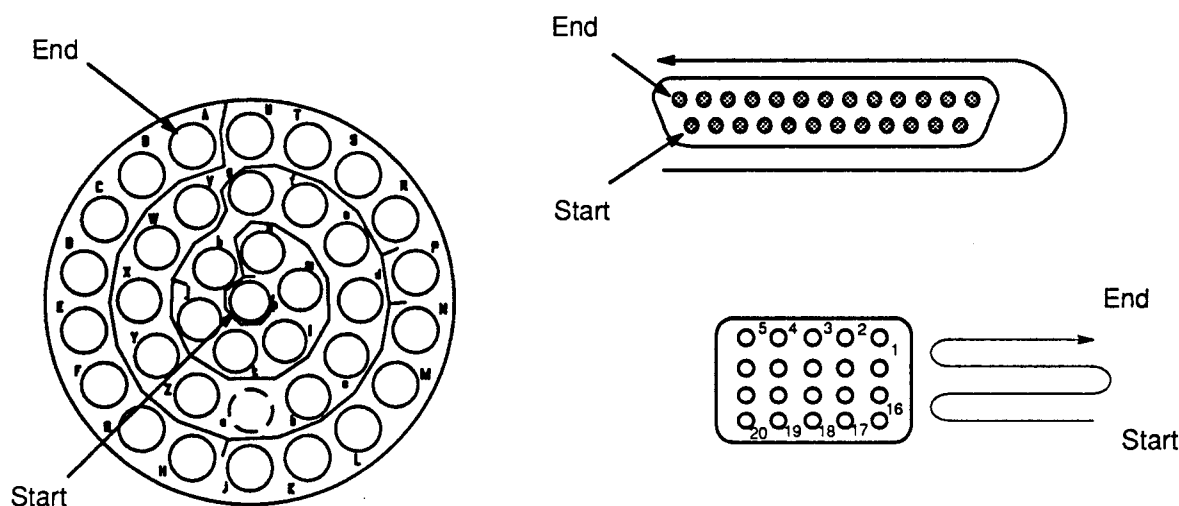

Figure 5 - Contact Insertion Sequence
- Step 7. Insert the rest of the contacts by working outwards from the centre in a circular pattern (see Figure 5).
- Step 7. Insert the remaining contacts by working outwards from the centre for circular connectors, or, in the case of rectangular connectors by completing one row at a time always starting at one end (see Figure 5).
- Step 6. Insert the remaining contacts by completing one row at a time (see Figure 5).